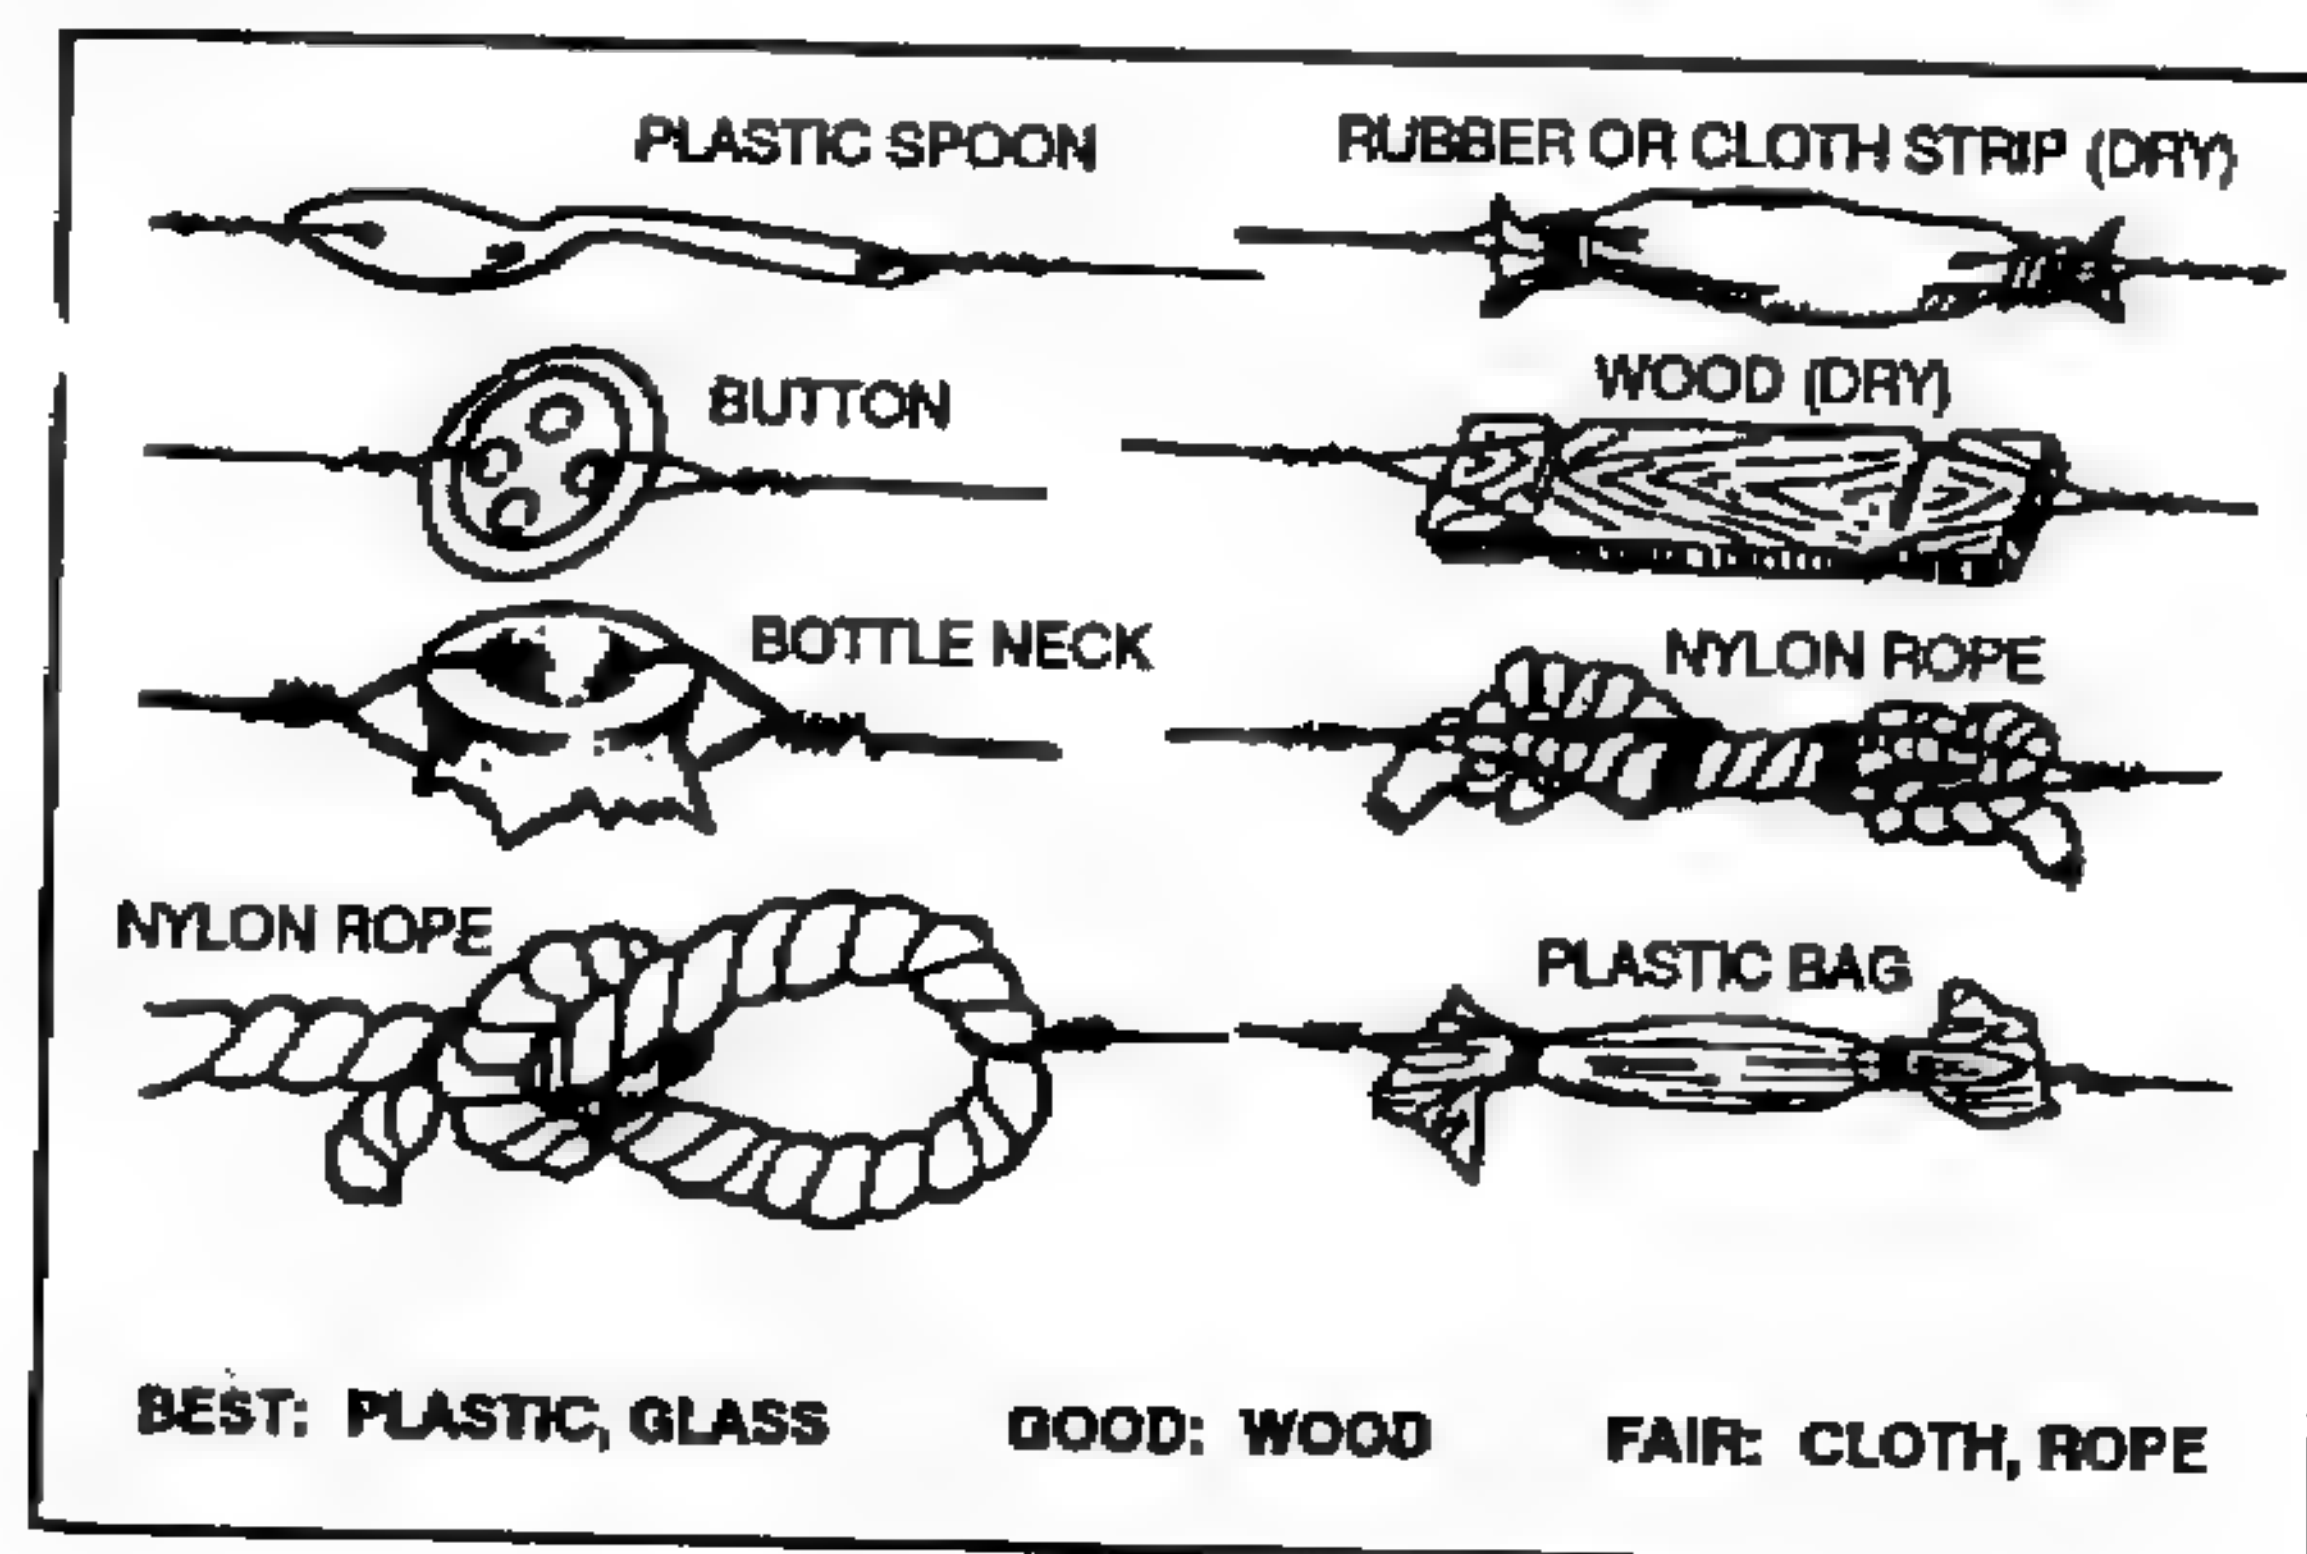

Figure 7-2. Improvised Insulators.
(1) When one or more wires of an antenna are broken, the antenna can be repaired by reconnecting the broken wires. To do this, lower the antenna to the ground, clean the ends of the wires, and twist the wires together. Whenever possible, solder the connection.
(2) If the antenna is damaged beyond repair, construct a new one. Make sure that the length of the wires of the substitute antenna are the same length as those of the original.
(3) Antenna supports may also require repair or replacement. A substitute item may be used in place of a damaged support and, if properly insulated, can be of any material of adequate strength. If the radiating element is not properly insulated, field antennas may be shorted to ground and be ineffective. Many commonly found items can be used as field-expedient insulators. The best of these items are plastic or glass to include plastic spoons, buttons, bottle necks, and plastic bags. Though less effective than plastic or glass but still better than no insulator at all are wood and rope. The radiating element—the actual antenna wire—should touch only the antenna terminal and should be physically separated from all other objects, other than the supporting insulator. (See Figure 7-2 for various methods of making emergency insulators.)